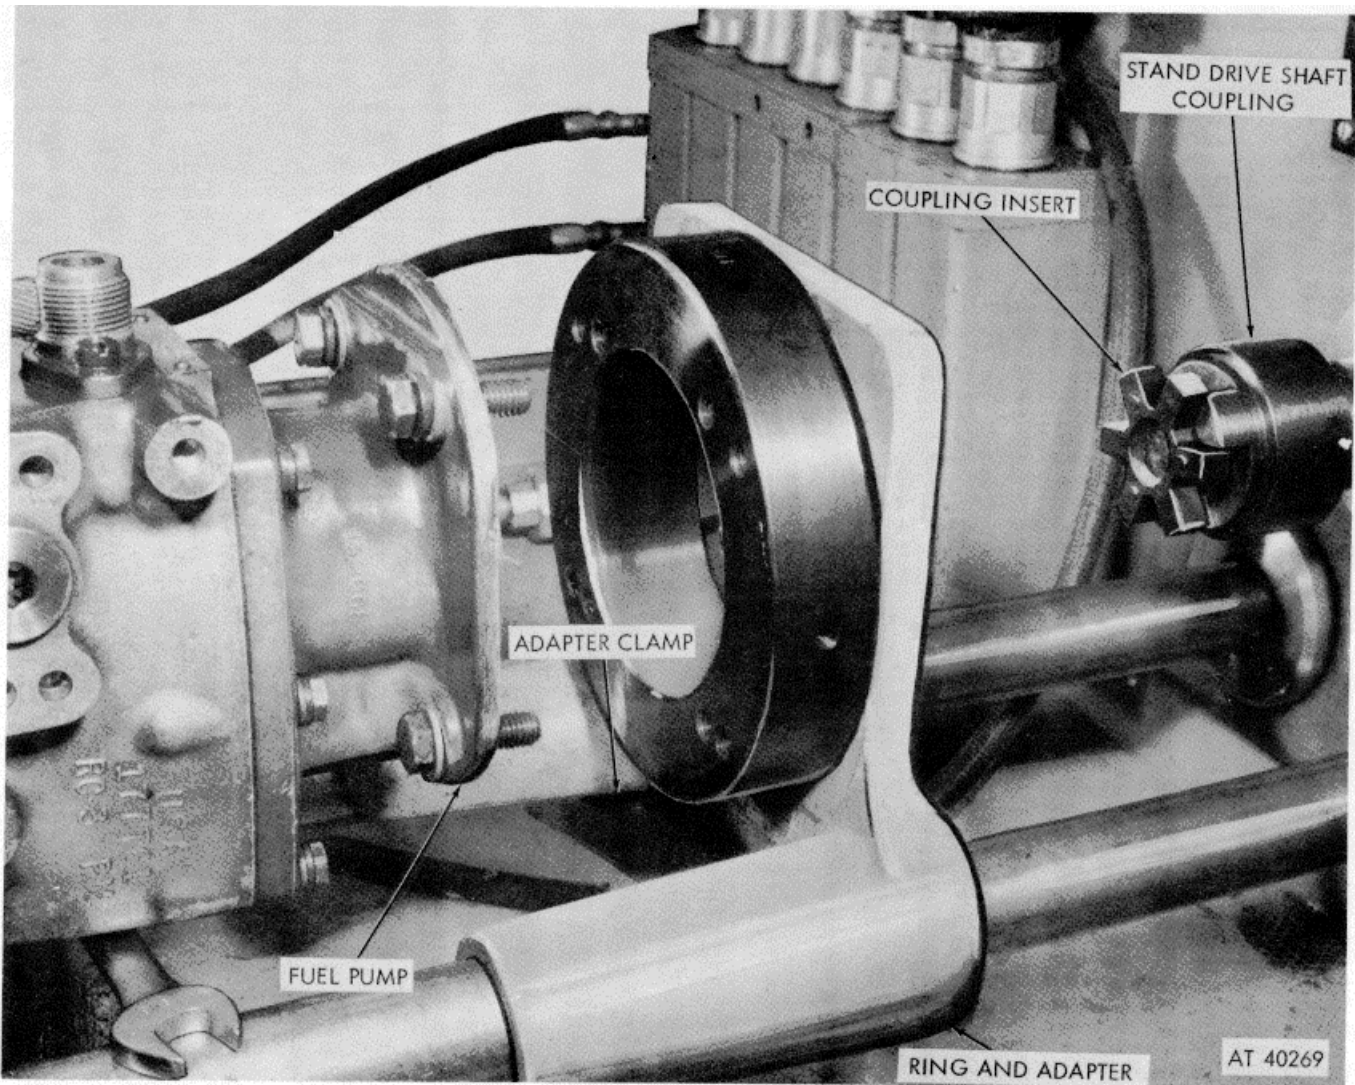

Figure 3-81. Pump mounted on test stand.
(3) Mount pump on adapter ring and bracket assembly and secure with four capscrews and flat washers (fig. 3-81).
(4) Place coupling insert (3, fig. 3-79) into coupling in stand drive shaft (fig. 3-81).